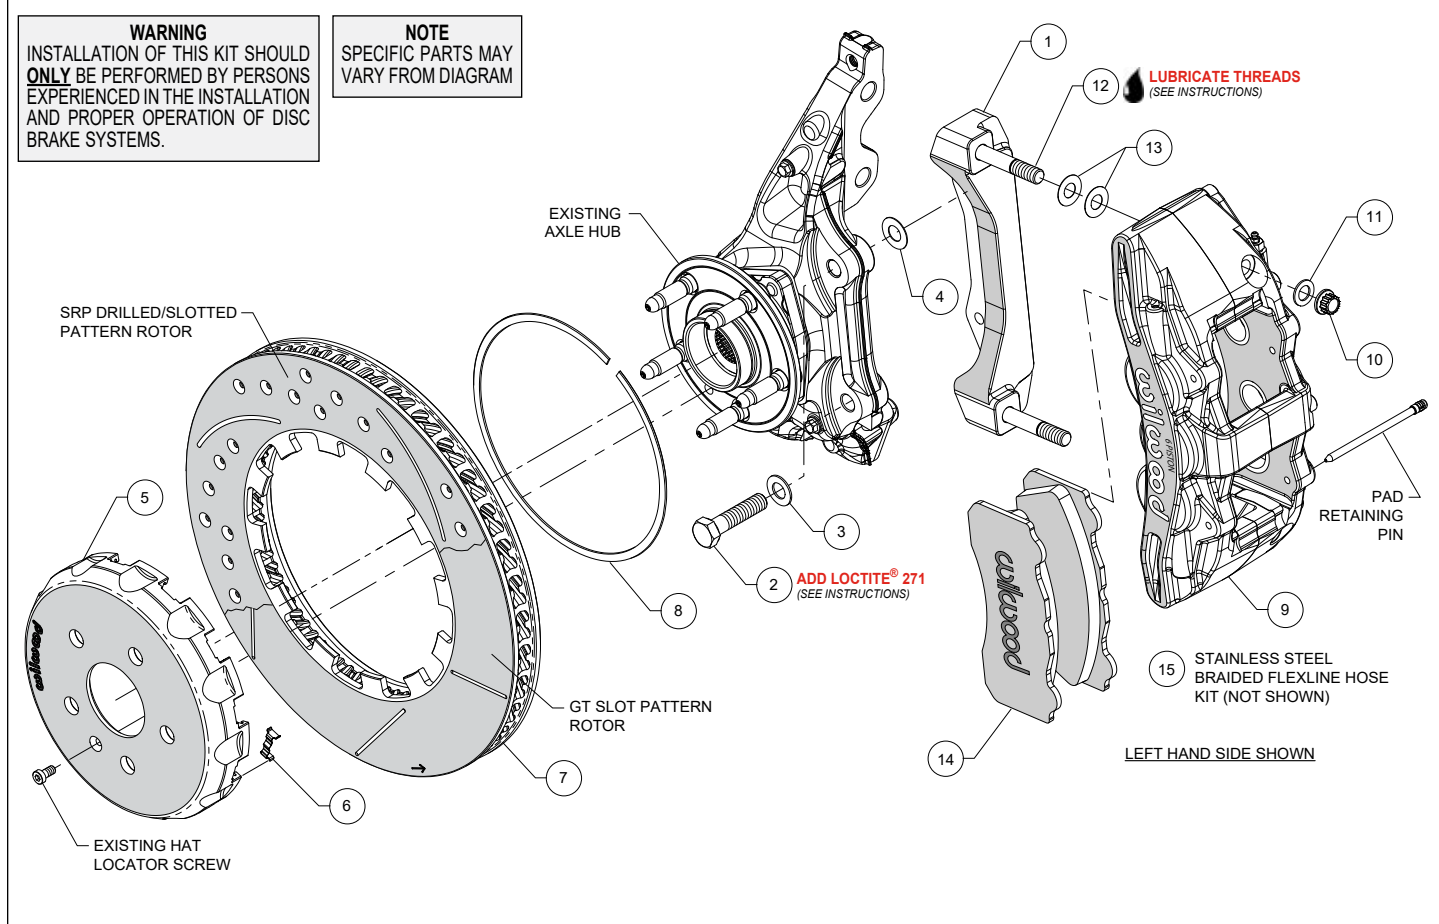

Figure 1. Typical Installation Configuration
NOTE: Numbers in parenthesis refer to the parts list and Figure 1 on the preceding pages.
•The caliper mount bracket (1) should initially be installed with clean, dry threads on the mounting bolts. Orient the bracket, as shown in Figure 1 and Photo 1, and install using bolts (2) and washers (3). Initially place one .029" thick shim (4) on each bolt between the bracket and upright, Figure 1. Temporarily tighten the mounting bolts. **NOTE:** The bracket must fit squarely against the mount bosses on the upright. Inspect for interference from casting irregularities, machining ridges, burrs, etc. Later, after the caliper alignment has been checked, the mount bolts will be secured using red *Loctite*® 271.
•Insert the dynamic mount wear clips (6) into the slots in the hat (5), Photos 2 and 3. Orient the rotor (7) as shown in Figure 1 and Photo 4, with the flush side of mount lugs facing the hat. Secure the rotor to the hat using the snap ring (8) by simultaneously pushing down on the rotor and installing the ring into the groove in the hat, as shown in Photo 5. Carefully inspect snap ring to ensure complete engagement in the groove.
•Slide the hat/rotor assembly onto the axle hub, Photo 6. **NOTE:** The hat must fit flush against the axle hub flange or excessive rotor run out may result. Install the hat locator screw (OEM), as shown in Figure 1, to keep the hat/rotor assembly in place while continuing with the installation..
•**NOTE:** This kit contains distinct right and left hand calipers that must be mounted in a specific direction, as described below. Lubricate the caliper mounting studs (12) with lightweight oil. Initially place two .015" thick shims (13) on each stud between the caliper and the bracket, as shown in Figure 1 and Photo 7. Mount the caliper (9) onto the bracket (1) using lock nuts (10) and washers (11), Figure 1. Temporarily tighten the lock nuts. Ensure that the caliper is mounted so the largest pistons are at the rotor exit end of the caliper, in relation to the direction of the rotor. View the rotor through the top opening of the caliper. The rotor should be centered in the caliper, Photo 8. If not, adjust by adding or subtracting shims (4) between the bracket and the upright. Always use the same amount of shims on each of the two mounting bolts. Once the caliper alignment is correct, remove the bracket mounting bolts (2) one at a time, apply red *Loctite*® 271 to the threads, and torque to 105 ft-lbs.
•Remove the two pad retaining pins from the caliper (9) by pushing out the pins from the tapered end using a blunt instrument. Insert the brake pads (14) into the caliper from the bottom, Figure 1 and Photo 9. With the friction material facing the rotor, secure the brake